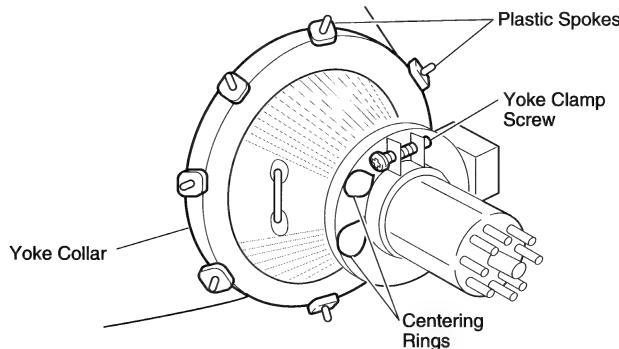

Figure 3 CRT Adjustment Controls
2. Loosen the yoke clamp screw (Figure 3) two or three turns.
4. Place one hand behind your back, and with your other hand grasp only the plastic spokes of the yoke collar (Figure 3). Rotate the yoke collar until the top and bottom edges of the picture appear parallel with the top and bottom edges of the bezel. (**Do not move the magnets, which are preset by the manufacturer and should not be adjusted.**)
6. Hold the yoke collar in position and tighten the yoke clamp screw so that the yoke collar (Figure 3) will not slip. Don't overtighten.
2. Locate the two centering rings on the yoke assembly (Figure 3). If a bonding material is holding the rings in place, use a small knife to break the bonding.